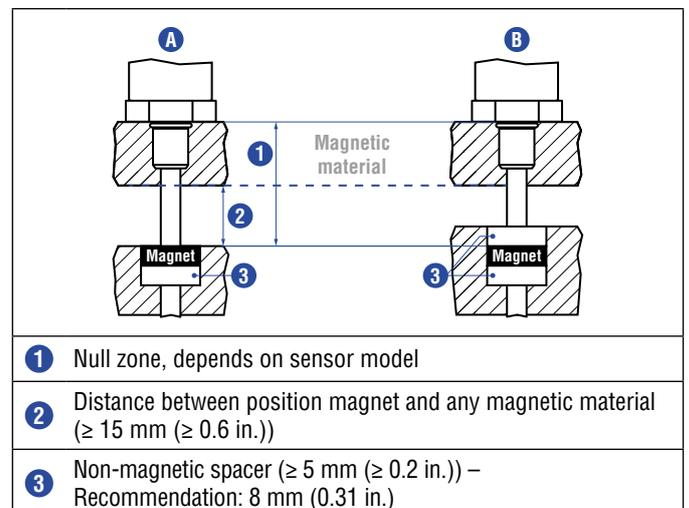

Fig. 72: Installation with magnetic material
- Minimum distance between position magnet and any magnetic material has to be 15 mm (0.6 in.) (Fig. 72).
- If no other option exists and magnetic material is used, observe the specified dimensions (Fig. 72).
When using magnetic material the dimensions of Fig. 72 must be observed.